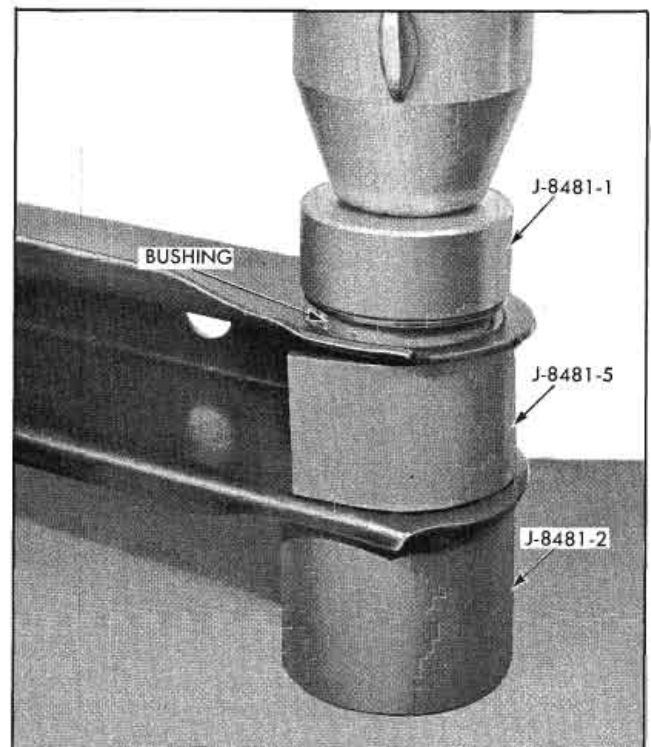

Fig. 3-35 Installing Rear Upper and Lower Control Arm Bushing
b. Press in new bushing, using J-8481-1, as shown in Fig. 3-35.
b. Install new bushing with J-8481-1 as shown in Fig. 3-35.